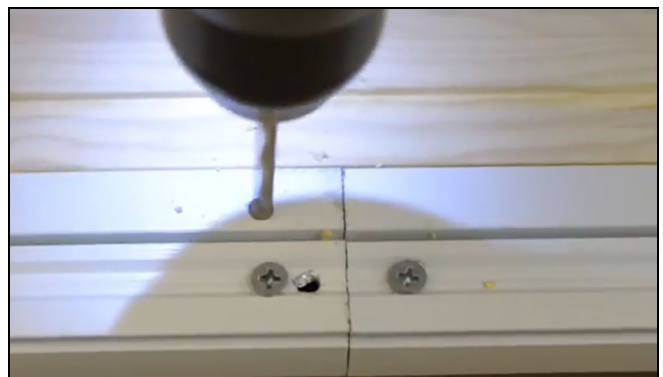

Figure 26
9. Pre-drill the head jamb with a 1/8" bit using the hole in the frame cladding as a guide. **Do not drill through the face of the frame cladding.** See Figure 26.